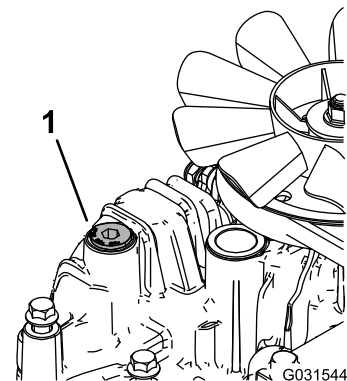

Figure 72
11. Loosen the vent plug in each transmission so that it is loose and wobbles (Figure 72).